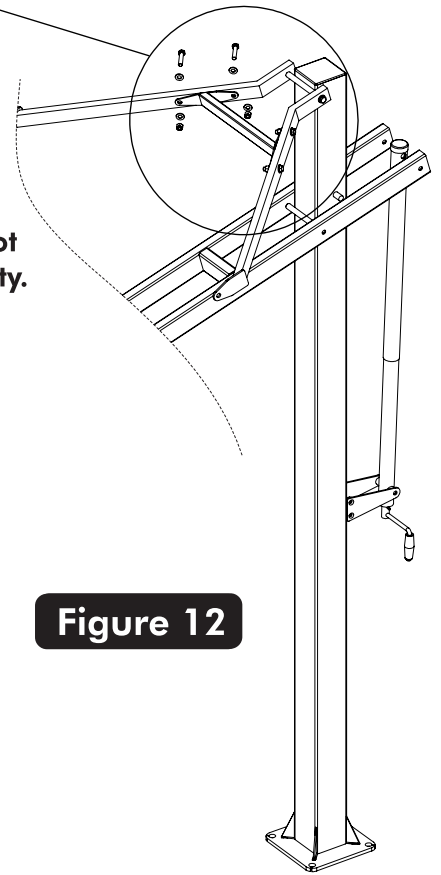

Figure 12
18. With the help of another adult attach the Cross brace (#52) with four Bolts (#50), eight Washers (#3) and four Nuts (#4) as shown in Figure 12 and Detail C.